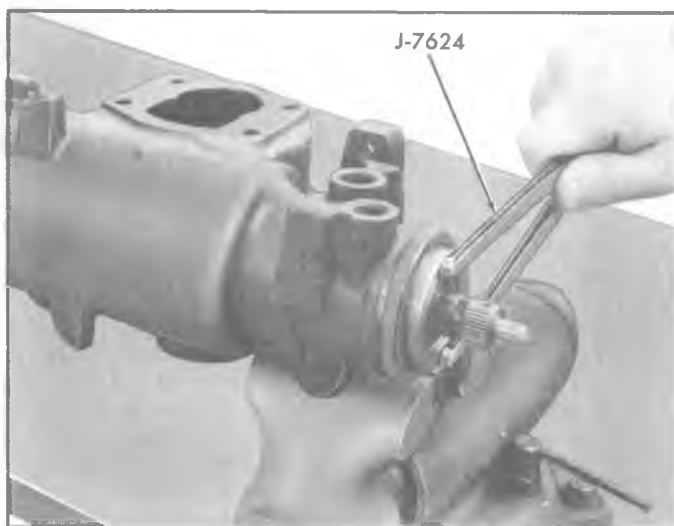

Fig. 41—Removing Adjuster Plug
- c. Remove adjuster plug assembly with Spanner Wrench J-7624 (fig. 41). Remove and discard the plug "O" ring.